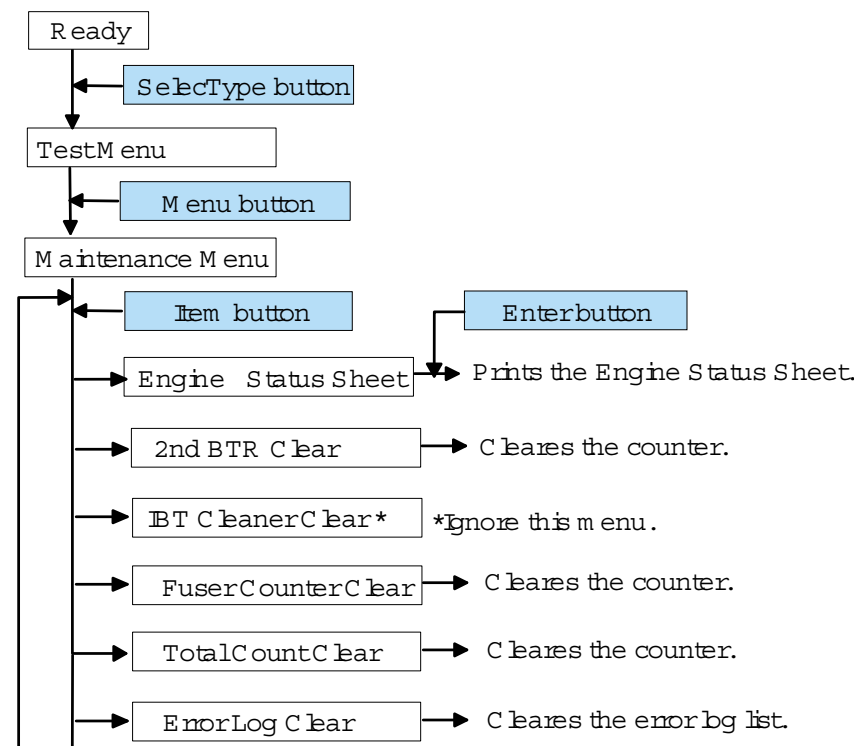

Figure 6-2. Maintenance Menu Operation
2. Referring to Figure 6-2 on the right, activate the desirable function through the panel operation.